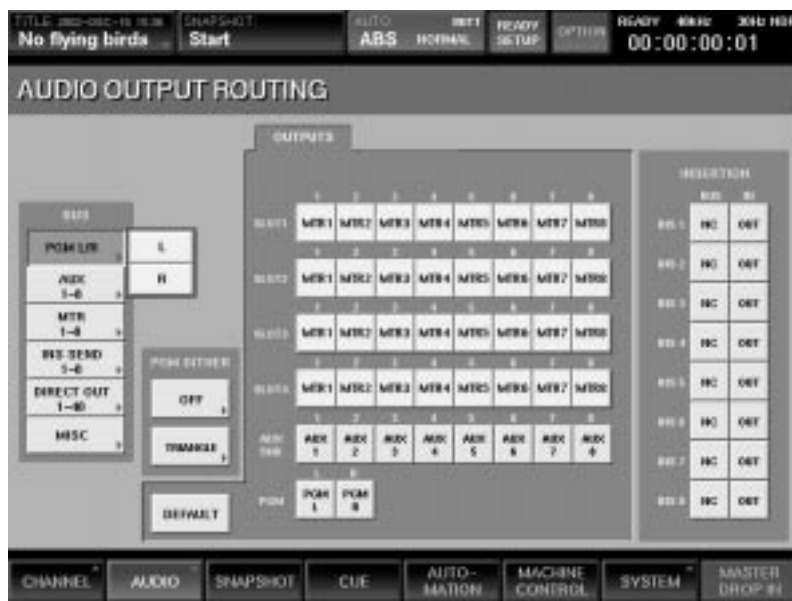

Figure 19
- 2 The BUS section on the left of the screen displays a menu of all possible buses. If you press one of the BUS buttons a second time, a second drop-down menu will appear. This menu lists all of the independent sources within each group. For example, press the PGM L/R button and you will see each output (L and R) separately. (See Figure 19)